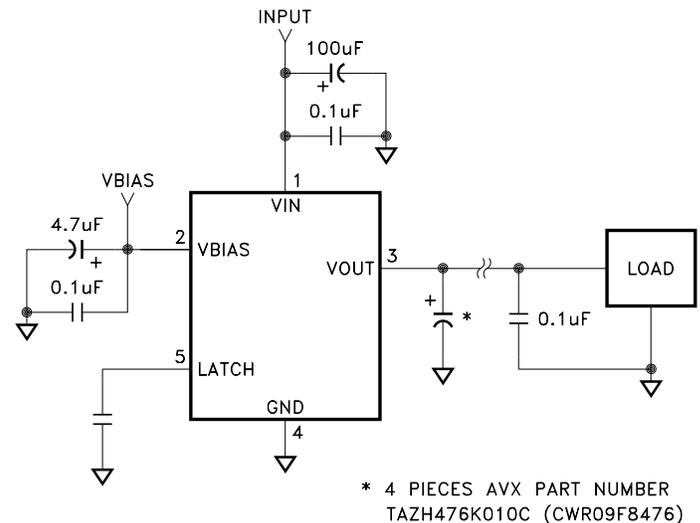

FIGURE 2
- ① Unless otherwise specified, V_{IN} = V_{OUT} + 1V, V_{BIAS} = 5V and I_{OUT} = 10mA. See figure 2 for typical test circuit.
- ② Guaranteed by design but not tested. Typical parameters are representative of actual device performance but are for reference only.
- ③ Industrial grade and "E" suffix devices shall be tested to subgroups 1 and 4 unless otherwise requested.
- ④ Military grade devices ("H" and "K" suffix) shall be 100% tested to subgroups 1,2,3 and 4.
- ⑤ Subgroup 5 and 6 testing available upon request.
- ⑥ Subgroup 1,4 TC = + 25°C